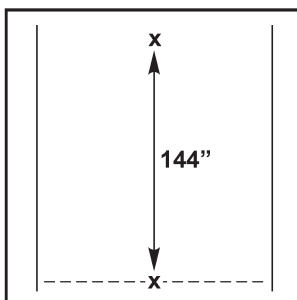
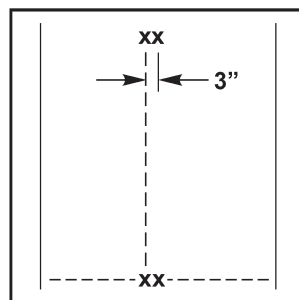

Figure 46
Figure 47
- Find and mark the center of the lane at the base and 144 inches above the base (see Figure 46).
- Measure 3 inches to the LEFT of each point in Figure 46, and snap a vertical chalk line (see Figure 47).